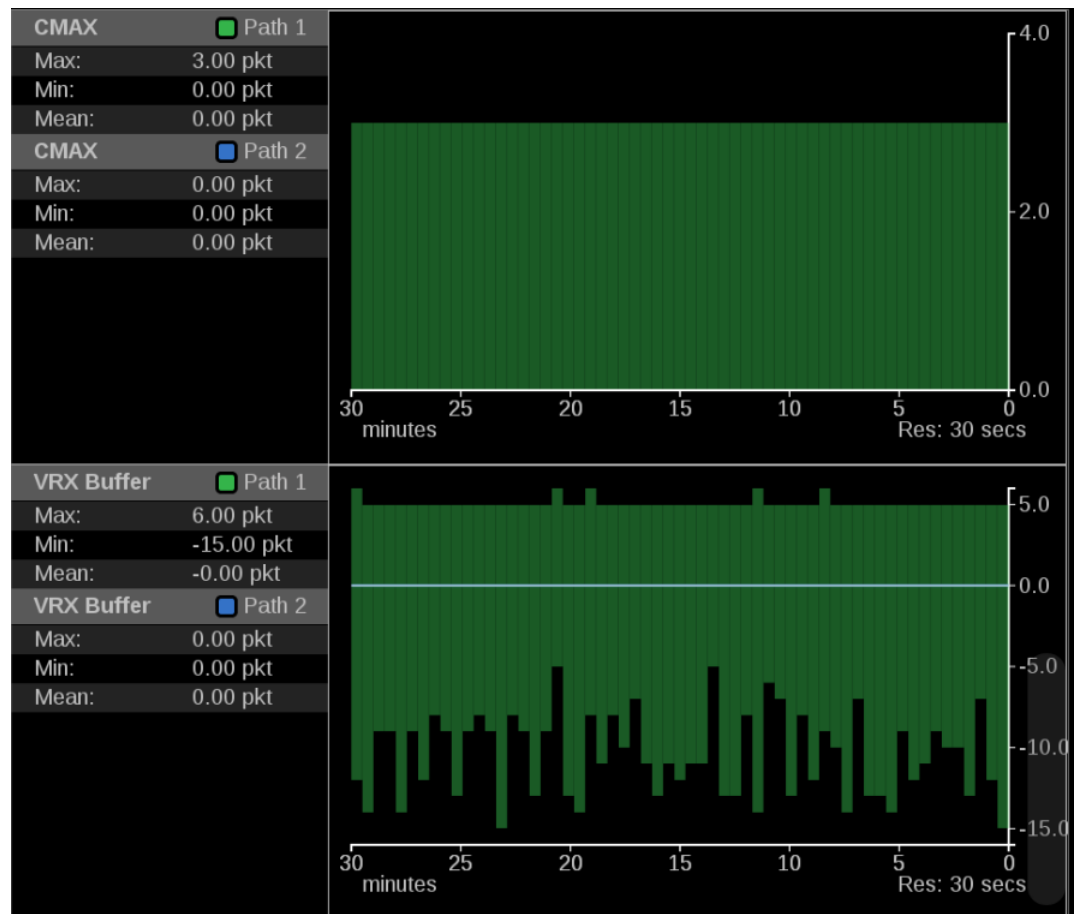

Figure 155: IP Graphs application – CMAX and VRX Buffer graph
- A network compatibility model to regulate the burst characteristics of senders, which promotes the compatibility with the switches. The **CMAX** section provides a trend graph for this type of modeling. (See Figure 155.)